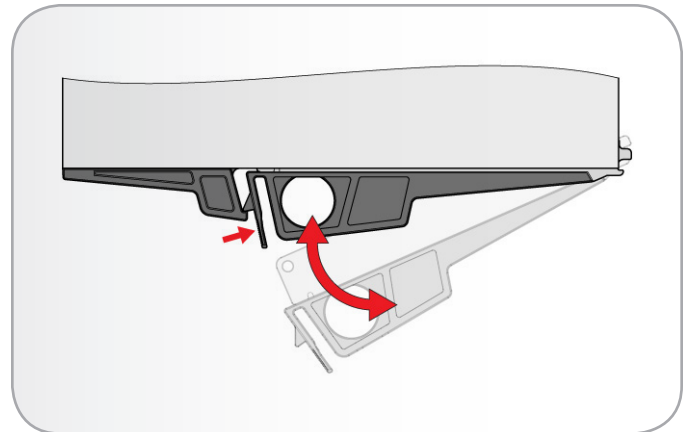

Fig. 74 - Releasing/Securing the Module Handle Latch
2. Pull the latch outward to eject the module from the enclosure (*Fig. 74*).